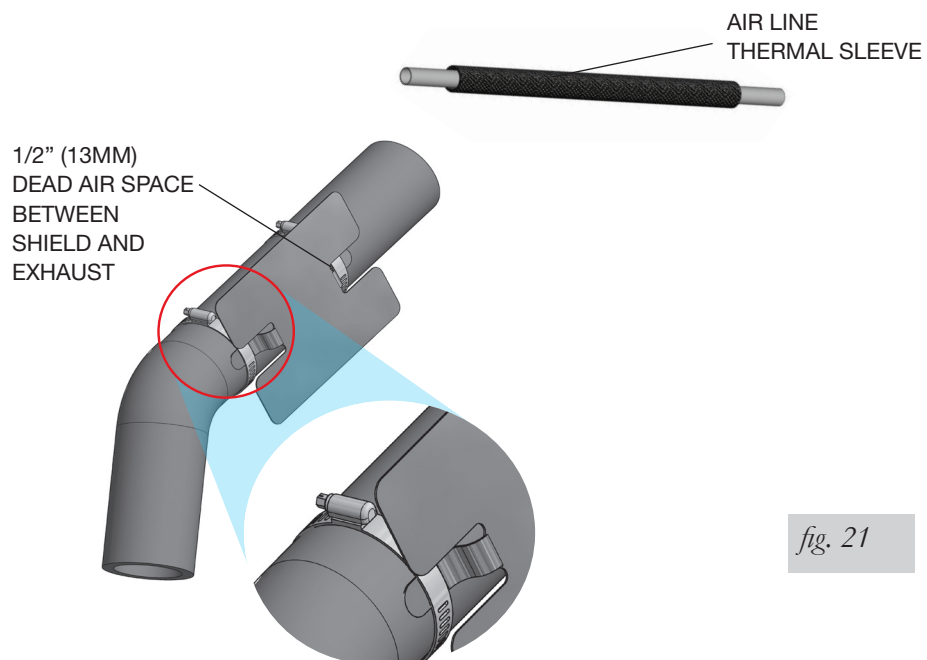

fig. 21
1. Attach the metal heat shield to the exhaust where it is closest to the passenger's (right) side air spring. Slide the air line thermal sleeve over the air line and position it where the air line is closest to the exhaust. (Fig. 21).